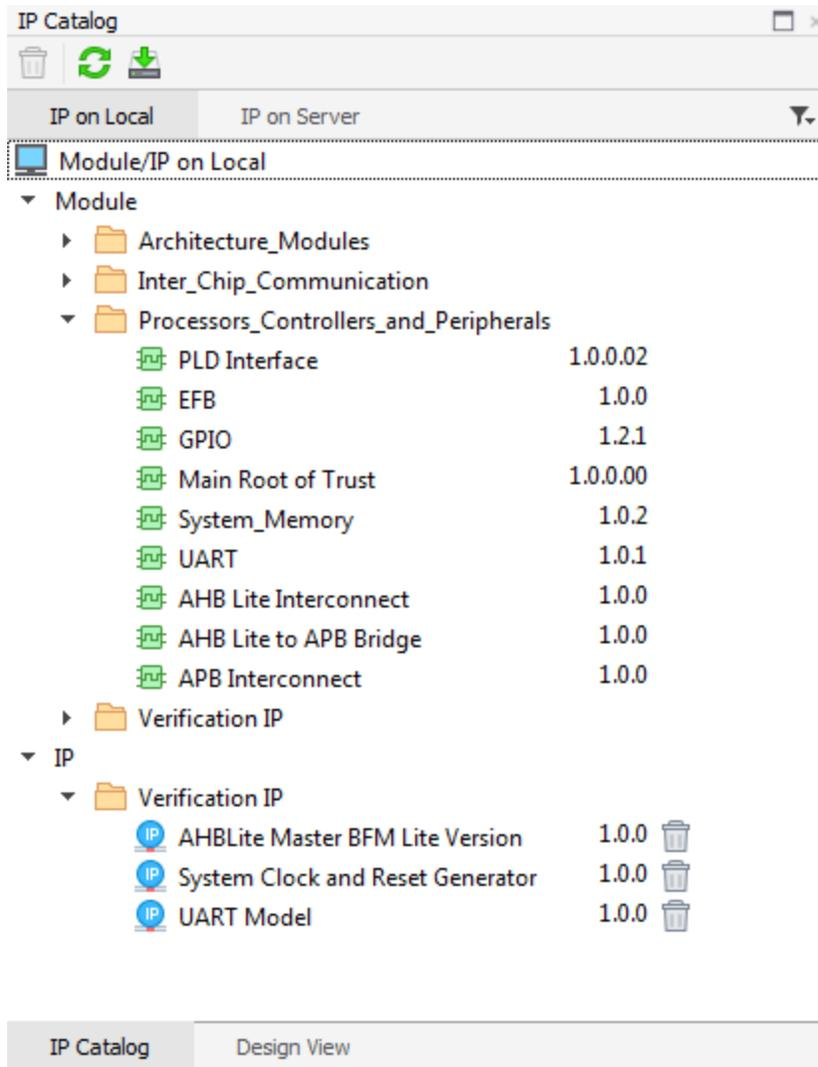

Figure 2.14. IP Catalog
1. (Optional) From the Propel Builder GUI **IP Catalog** area (Figure 2.14), choose the **IP on Server** view. Select a desired IP. Click the  **Install** button. After the IP is installed successfully, the new IP can be shown in the **IP on Local** tab.